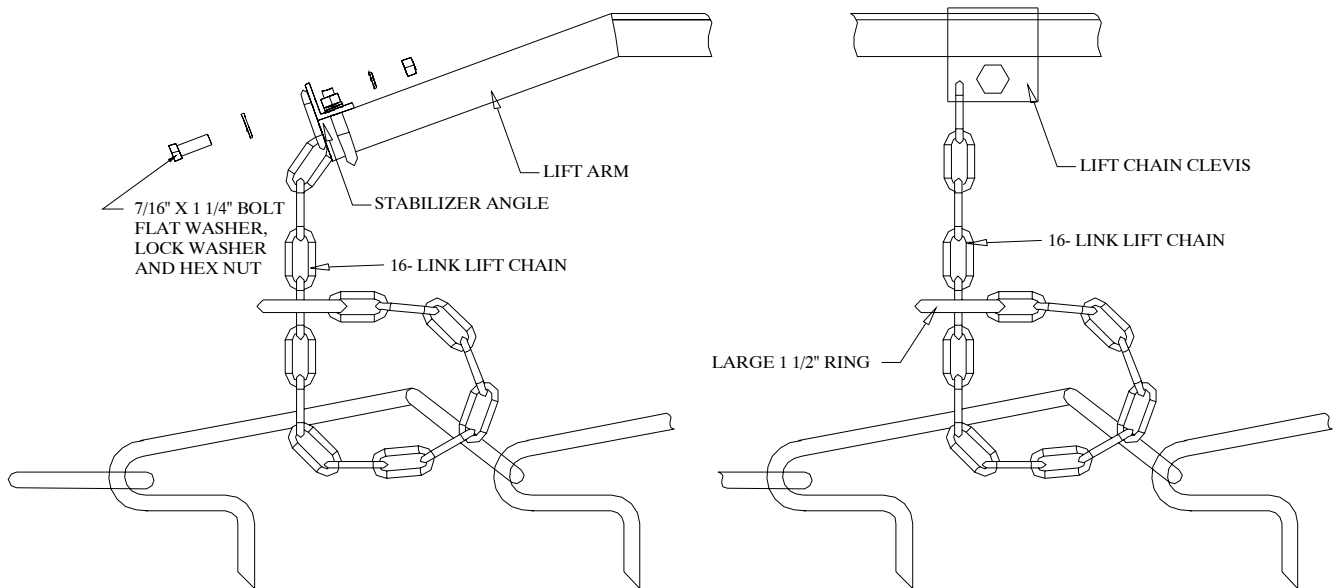

Figure 6
2. Directly below the Lift Chain Clevis, wrap a 16 Link Lift Chain around a harrow section cross piece and feed the chain back through the large 1 1/2" ring on the end of the chain. Bolt the free end of the Lift Chain to the Lift Chain Clevis. Referring to figure 6, use 7/16 x 1 1/4 bolts, lock washers and hex nuts.
3. In the same fashion as step 2, wrap a 16 link Lift Chain around a harrow section cross piece directly below the Stabilizer Angle where the angle is u-bolted to the Lift Arm. Bolt the free end of the Lift Chain to the rear side of the Stabilizer Angle using a 7/16 x 1 1/4 bolt, flat washer, lock washer and hex nut as shown in figure 6.